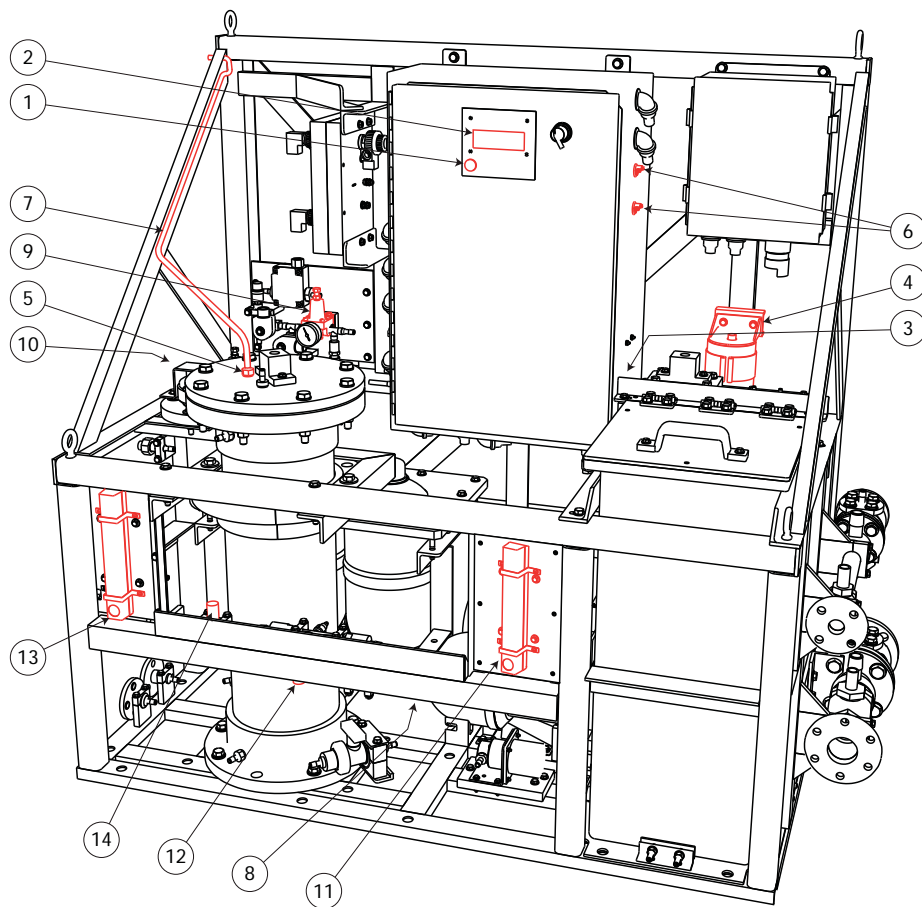

Figure 1. Upgrade Items
(Figure 1 except as indicated)
### (Figure 1)
- Locate the 1" diameter hose section at the inline booster pump inlet (Figure 1, 8). Remove cable ties as necessary to access the hose section.
- Locate the water pressure regulator (Figure 1, 9) at the rear of the frame near the electrolytic cell.